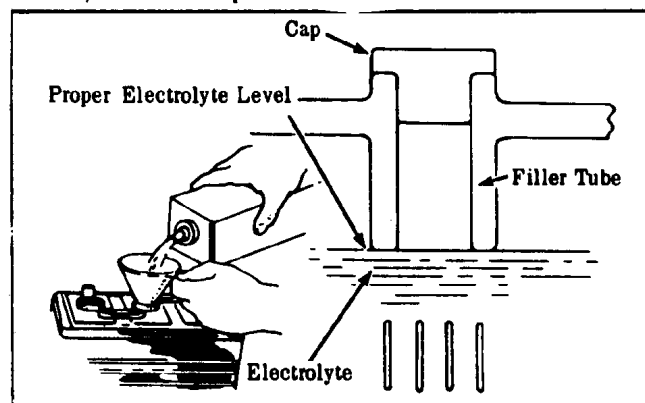

Figure 17
- BATTERY**- Check the water level of the battery by removing each of the six caps. If the level is below the bottom of the filler tube (See Fig. 17), use a paper cup and fill with distilled water.